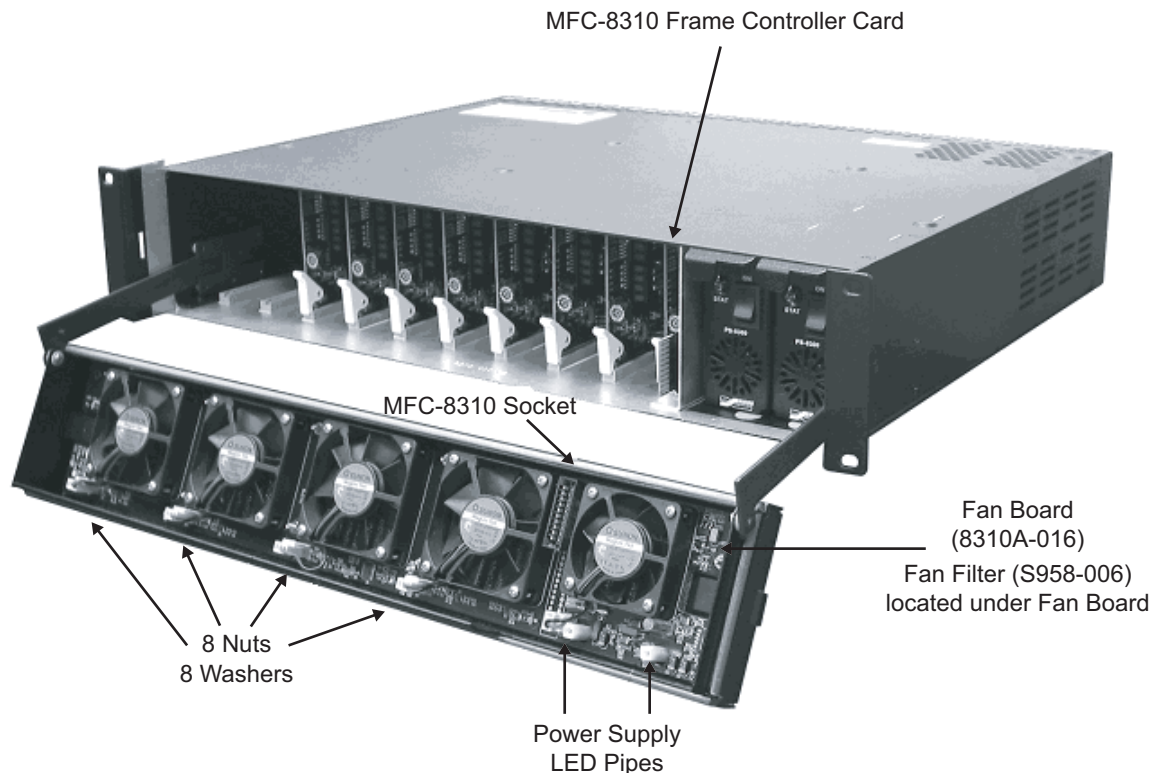

Figure 3.3 CFM-8310 Cooling Fan Module
Refer to **Figure 3.3** when installing the Fan Board component of the CFM-8310:
9. Ensure the **Alarm Mute** button clears its door hole and that the **Fault** and **Fan Fail** LEDs clear their door holes while you slowly press the Fan PCB (8310A-016) down onto the 8 mounting bolts. Refer to **Figure 3.3** for details on these item locations.